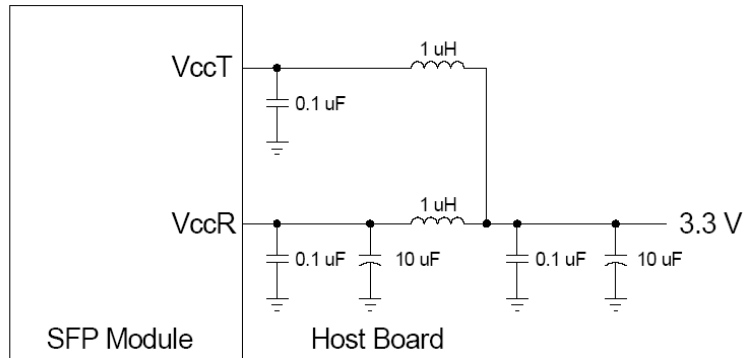

Figure 4, Recommended Host Board Power Supply Filtering Network
6. V_{ccR} and V_{ccT} are the receiver and transmitter power supplies. They are defined as $3.3V \pm 5\%$ at the SFP connector pin. Maximum supply current is 300 mA. Recommended host board power supply filtering is shown in figure 4. Inductors with DC resistance of less than 1Ω should be used in order to maintain the required voltage at the SFP input pin with 3.3V supply voltage. When the recommended supply filtering network is used, hot plugging of the SFP transceiver module will result in an inrush current of no more than 30 mA greater than the steady state value.